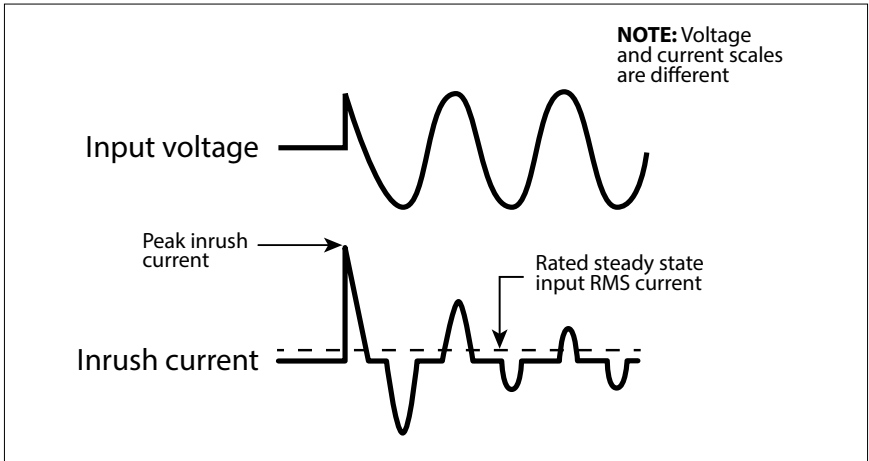

Fig 4.1: Inrush current in an SMPS
- **AC to DC Switched Mode Power Supplies (SMPS):** This type of power supply is used as stand-alone power supply or as front end in all electronic devices powered from Utility / Grid e.g. in audio/video/ computing devices and battery chargers (Please see Section 4 for more details on SMPS). When this power supply is switched ON, its internal input side capacitors start charging resulting in very high surge of Inrush Current for a few milliseconds (Please see Fig 4.1). This surge of inrush current / power may reach up to 15 times the Continuous Maximum Running Power Rating. The surge of inrush current / power will, however, be limited by the Surge Power Rating of the AC source.
**Power Factor, (PF):** It is denoted by "PF" and is equal to the ratio of the Active Power (P) in Watts to the Apparent Power (S) in VA. The maximum value is 1 for resistive types of loads where the Active Power (P) in Watts = the Apparent Power (S) in VA. It is 0 for purely inductive or purely capacitive loads. Practically, the loads will be a combination of resistive, inductive and capacitive elements and hence, its value will be  $> 0 < 1$ . Normally it ranges from 0.5 to 0.8 e.g. (i) AC motors (0.4 to 0.8), (ii) Transformers (0.8) (iii) AC to DC Switch Mode Power Supplies (0.5 to 0.6) etc.
Switch Mode Power Supplies (SMPS) are extensively used to convert the incoming AC power into various voltages like 3.3V, 5V, 12V, 24V etc. that are used to power various devices and circuits used in electronic equipment like battery chargers, computers, audio and video devices, radios etc. SMPS use large capacitors in their input section for filtration. When the power supply is first turned on, there is a very large inrush current drawn by the power supply as the input capacitors are charged (The capacitors act almost like a short circuit at the instant the power is turned on). The inrush current at turn-on is several to tens of times larger than the rated RMS input current and lasts for a few milliseconds. An example of the input voltage versus input current waveforms is given in Fig. 4.1. It will be seen that the initial input current pulse just after turn-on is > 15 times larger than the steady state RMS current. The inrush dissipates in around 2 or 3 cycles i.e. in around 33 to 50 milliseconds for 60 Hz sine wave.